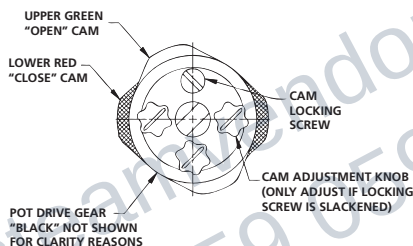

Figure 5. Top view of the indicator cam shaft
6.2.4.3 Loosen the cam locking screw shown in Figure 5.